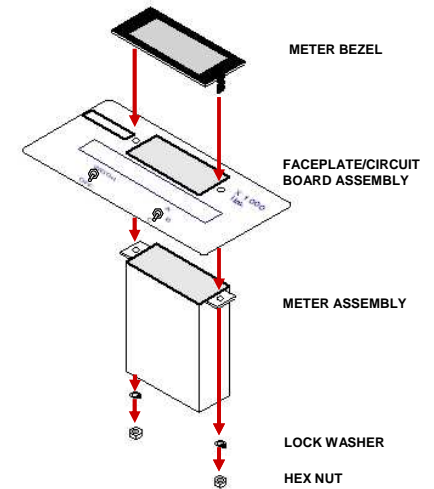

Figure 4: Installing the Meter
5. Install the Meter Assembly into the Faceplate/Circuit Assembly as shown in Figure 4. The Meter face protrudes through the faceplate.